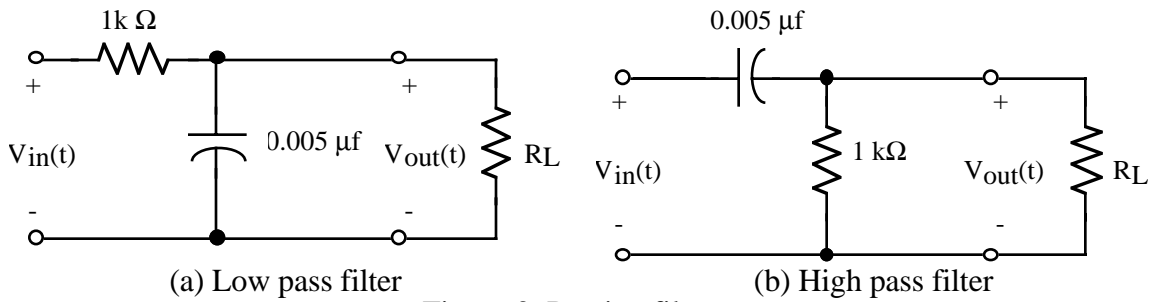
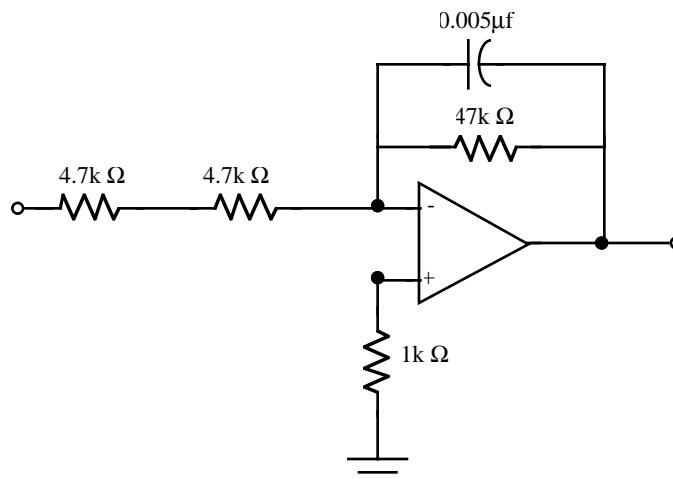
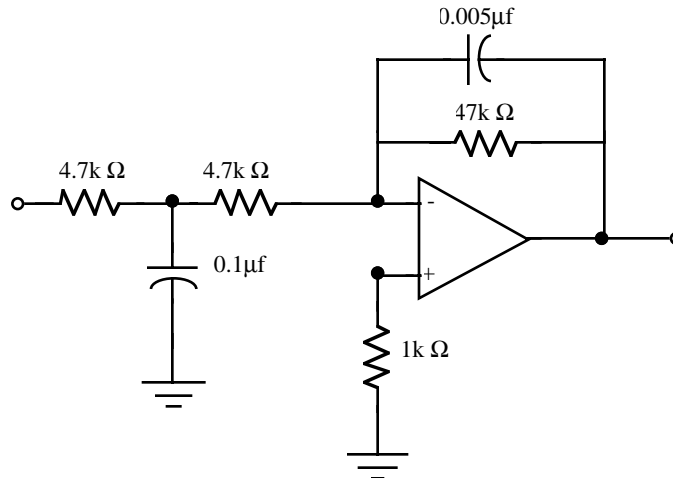

Figure 3. Passive filters.
Figure 4. Active low pass filter.
Figure 5. Second order low pass filter.
An active filter is a circuit that includes an op amp as well as having the characteristics of a filter. Recall the circuits for passive high pass and low pass filters. Their circuit diagrams are shown in Figure 3. Note that in each case a load resistor, R_L , has been added to the circuit to make it describe a more realistic situation (there will always be a load on the output of a filter circuit). The frequency characteristics of the filter are dependent upon the load resistor, which is hardly a desirable feature. In this lab you will study a variation of the low pass filter, namely, an active low pass filter as shown in Figure 4. Active filters include an op amp as an integral part of the circuit. The effect of the op amp is two-fold. First, it serves as the source of current for the load that follows the filter, thus eliminating the effect of the load resistance on the characteristics of the filter and, second, it permits adding positive gain to the filter.
Note that in the circuit of Figure 4 there is a capacitor in the feedback loop. This circuit will behave similar to the low pass filter of Figure 3, but with a different cutoff frequency. (Note that the component values in the circuit of Figure 4 are not the same as those in Figure 3.) This is primarily because of non-ideal characteristics of the 741 op amp.
The filter circuits of Figure 3 and Figure 4 are called *first order filters* and they have similar abilities to reject frequencies past the cutoff frequency, i.e., their frequency response rolls off at the same rate. There will be occasions when you would like to have better frequency rejection than is provided by a first order filter. (Perhaps the signal that you are interested in is corrupted by lots of noise.) A filter such as that shown in Figure 5 can provide this increased attenuation of the high frequencies. Note that this filter includes a capacitor in the input network as well as in the feedback network. Such a filter is called a *second order filter*.
- Find an expression for the transfer function, $H(j\omega)$, for the circuit in Figure 4. From this result, find expressions for the magnitude and angle of $H(j\omega)$.
1. Build the active first order low pass filter circuit shown in Figure 4. Keep the power supply output turned off while assembling the circuit. After completing a set of measurements on this circuit you will be adding a capacitor between the two $4.7\text{k}\Omega$ resistors as shown in Figure 5, so be sure to leave adequate space.
4. Connect a $0.1\ \mu\text{F}$ capacitor into the circuit as shown in Figure 5 and repeat Steps (2) and (3) above, recording your data in Data Table 4.
Active low pass filter (Figure 4.)